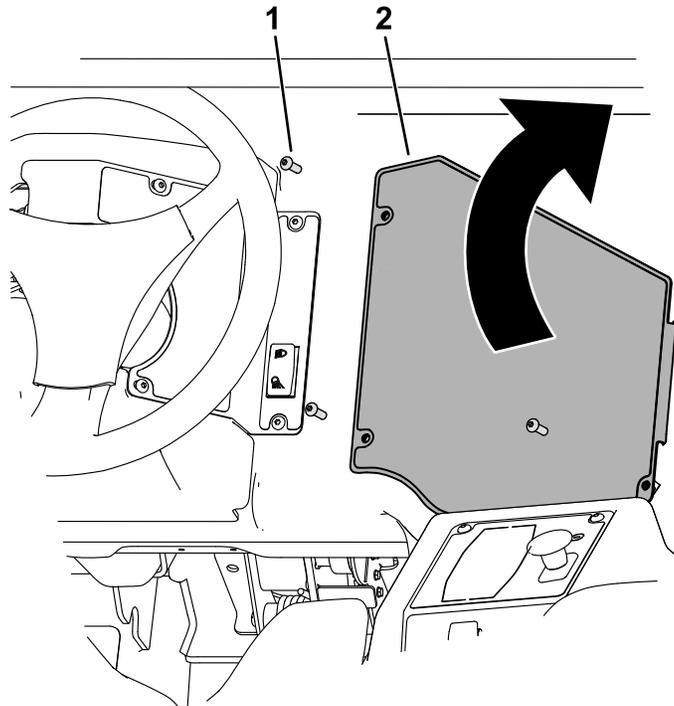

Figure 14
1. Remove the 3 button-head screws and rotate the control panel out to the right (Figure 14).